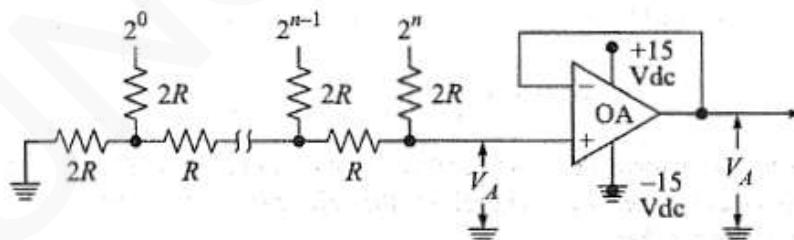

Figure 12.12: R-2R ladder DAC
- **Operational Amplifier (OA)** is connected as a unity-gain non-inverting amplifier (Figure. 12.12).